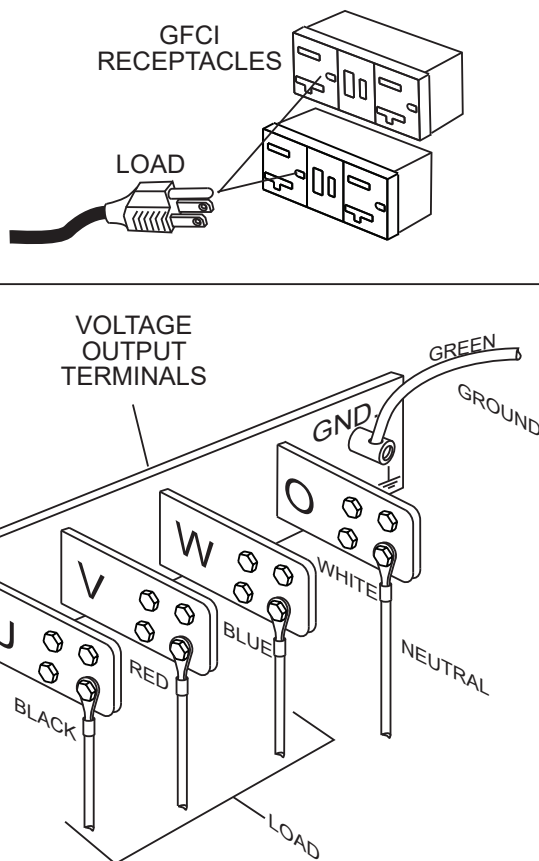

Figure 53. Load Connections
7. Connect the load to the UVWO terminals or auxiliary receptacles as shown in Figure 53. These load connection points can be found on the output terminal panel. To access the UVWO busbar terminals or other power receptacles, unlock the access cover and lift the door.